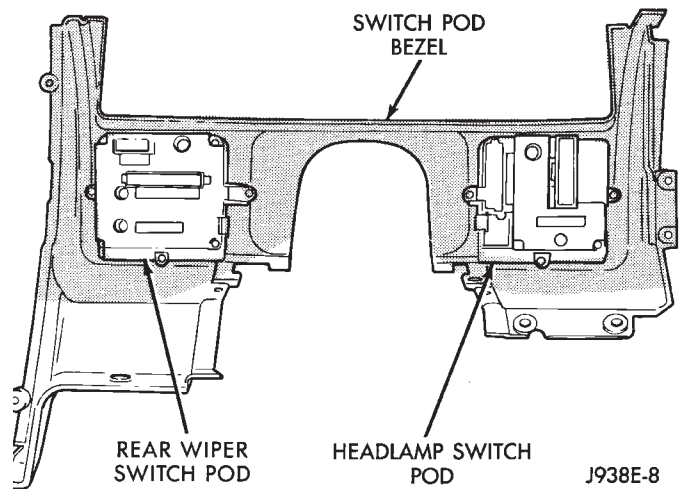

Fig. 17 Rear View of Switch Pod Bezel
- (21) Pull switch pod bezel out far enough to remove switch connectors. Disconnect connectors from each switch pod and remove bezel (Fig. 17).
- (22) Remove required switch attaching screws and switch.
- (23) Reverse the removal procedures to install a new switch. Tighten steering column retaining nuts to 105 in. lbs.